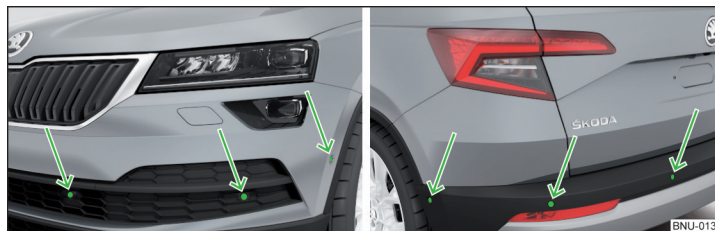

Fig. 261 Installation location of the sensors on the left side of the vehicle: front / rear
- Keep the system sensors » Fig. 261 on page 220 clean, snow- and ice-free and do not cover with any objects of any kind, otherwise the system functioning may be impaired.
The system uses ultrasound waves to calculate the distance between the bumper and an obstacle. The ultrasonic sensors are, depending on vehicle equipment, located in the back or in the front bumper » Fig. 261.